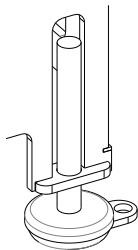

Figure 9 Floor bolts.
- 6 Position the bolts in the assigned holes, and tighten (see Figure 9).